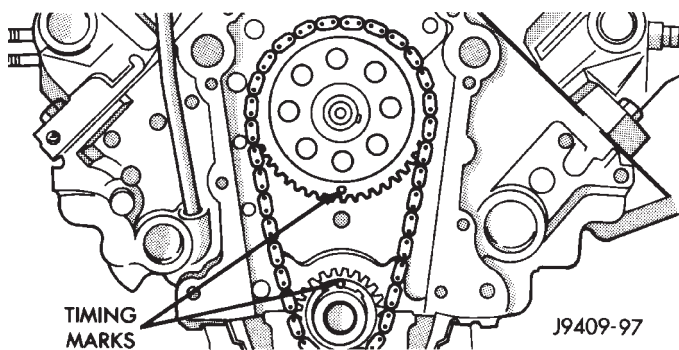

Fig. 31 Alignment of Timing Marks
(1) Place both camshaft sprocket and crankshaft sprocket on the bench with timing marks on exact imaginary center line through both camshaft and crankshaft bores.
(2) Place timing chain around both sprockets.
(3) Turn crankshaft and camshaft to line up with keyway location in crankshaft sprocket and in camshaft sprocket.
(4) Lift sprockets and chain (keep sprockets tight against the chain in position as described).
(5) Slide both sprockets evenly over their respective shafts and use a straightedge to check alignment of timing marks (Fig. 31).
(6) Install the camshaft bolt. Tighten the bolt to 68 N·m (50 ft. lbs.) torque.
(7) Check camshaft end play. The end play should be 0.051-0.152 mm (0.002-0.006 inch) with a new thrust plate and up to 0.254 mm (0.010 inch) with a